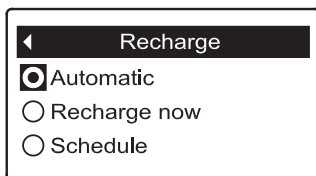

FIG. 115
4. Press the SELECT (○) button to display the Recharge menu (See Figure 115).